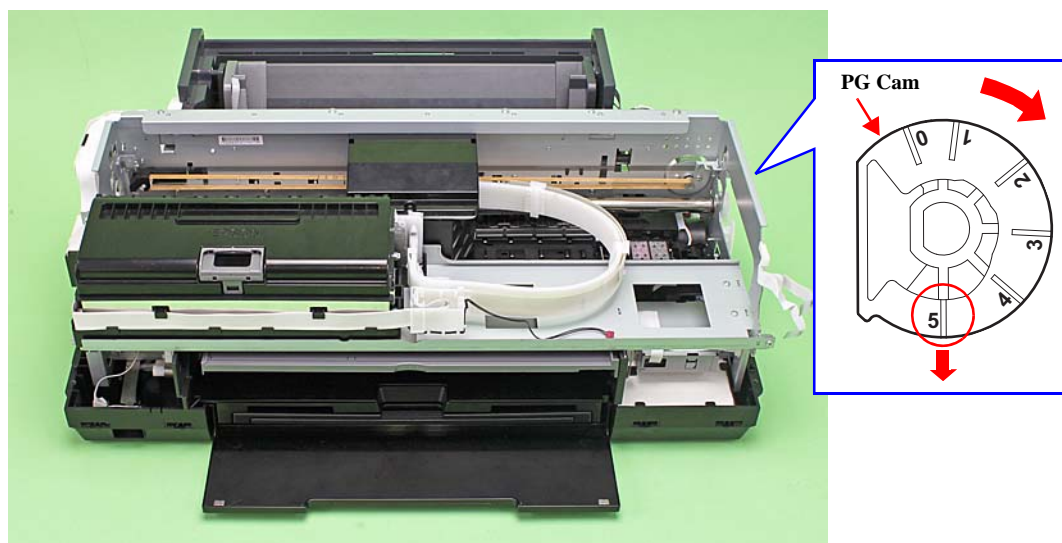

Figure 2-17. PG Cam Position
7. To set the PG position to “0”, turn the PG Cam on right end of the Carriage Shaft clockwise (CW) so that the point marked “0” faces down. (See Figure 2-17.)
9. To set the PG position to “5”, turn the PG Cam on right end of the Carriage Shaft counterclockwise (CCW) so that the point marked “5” faces down. (See Figure 2-17.)
12. To set the PG position to “0”, turn the PG Cam on right end of the Carriage Shaft clockwise (CW) so that the point marked “0” faces down. (See Figure 2-17.)